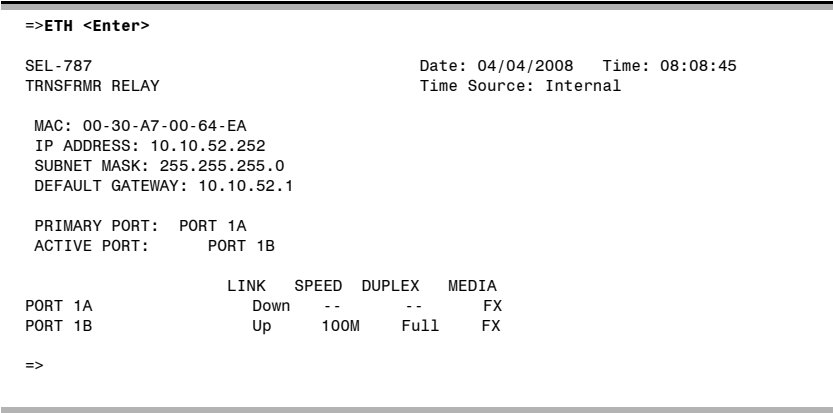

Figure 7.16 Ethernet Port (PORT 1) Status Report
The **ETH** command (Access Level 1) may be used to display the Ethernet port (**Port 1**) status as shown in *Figure 7.16* for the redundant fiber-optic (FX) Ethernet **Port 1A** and **Port 1B** configuration. Copper Ethernet port is labelled as TX. The non-redundant port response is similar.